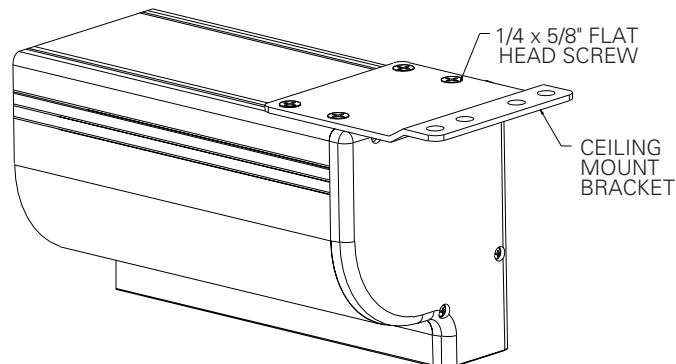

FIGURE 2
2. The top of the screen case has two channels with threaded nuts that slide the length of the case. Attach two ceiling mount brackets to the screen case as shown in figure 2.